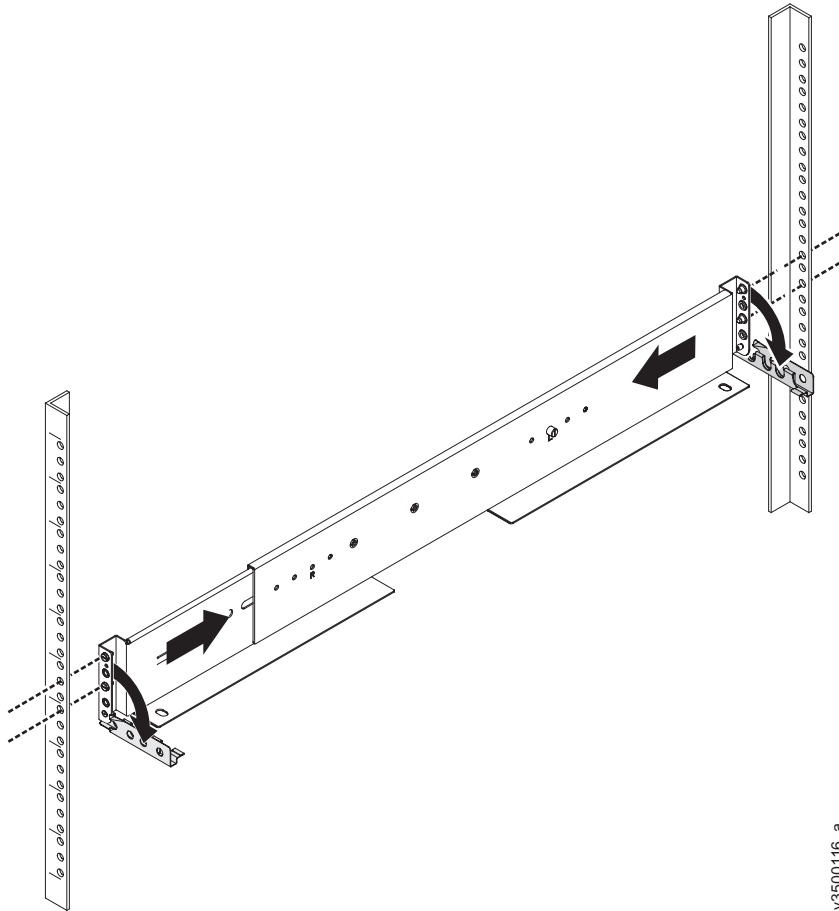

Figure 104. Compressing rail for removal from rack
11. Compress the rail against its spring to shorten it, then remove it from inside the rack (Figure 104 on page 347).
12. Repeat steps 9 on page 345 to Figure 104 on the right support rail.